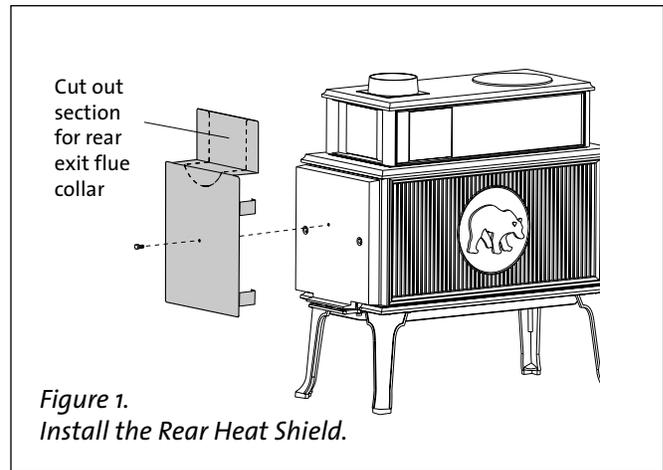

Figure 1.
2. Engage the heat shield stand-offs with the slot at each side of the back plate and attach the shield to the center hole using the M6 x 45 hex bolt supplied. See **fig. 1**.